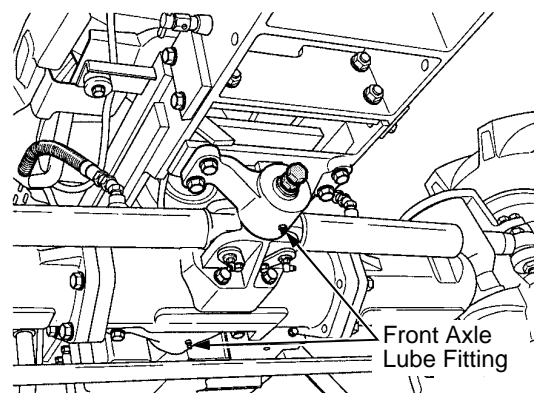

Figure 69
- Front axle pivot brackets (front and back). See Figure 69.